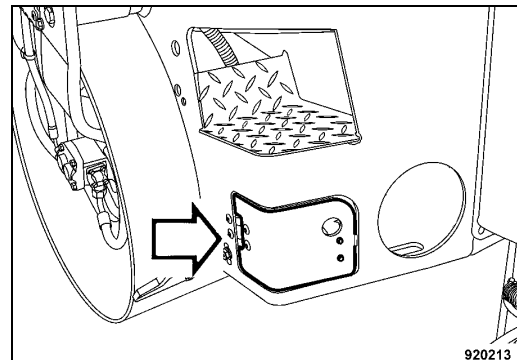

Fig. 179
- Open the covering flap (Fig. 179) on the right hand side of the rear frame.